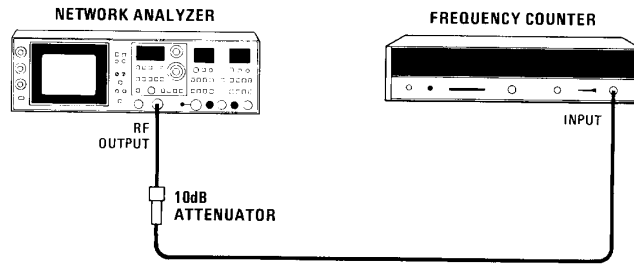

Figure 4-1. Frequency Readout Accuracy Test Setup
2. Connect equipment as shown in Figure 4-1.